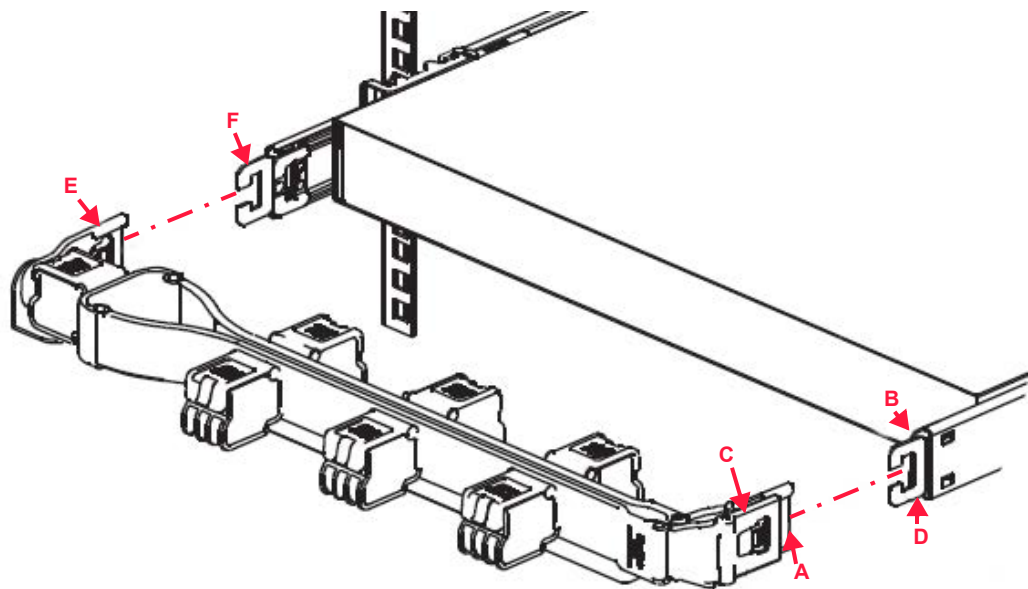

Figure 2.19 CMA components
Each server module enclosure is supported by a CMA, which permits removal of the cables from one server module without disrupting any other server modules. Each of the CMA connectors listed in Table 2.1 is identified in Figure 2.19.
1. Become familiar with each of the CMA components that are identified in Figure 2.19 and listed in Table 2.1 on page 25.